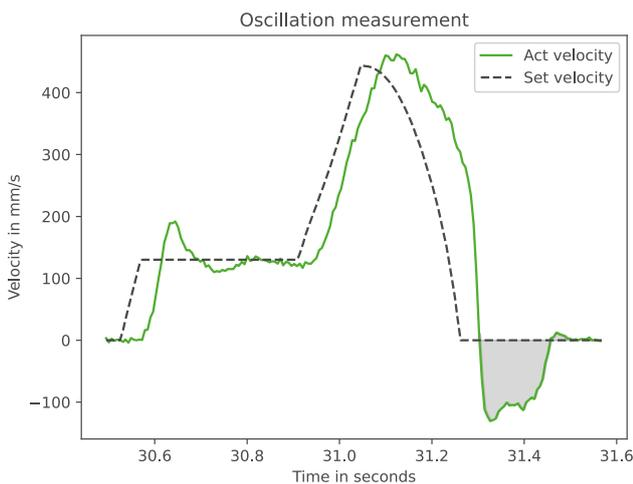

Figure 3.1: A typical mold open stop ramp evaluation (the movement time values start at 30 s, because we used actual data from a real measurement)
- 1 Algorithm evaluates the oscillation at the end of the movement (Figure 3.1),
- 2 uses the oscillation of a slow movement as a reference (A), and
- 3 performs numerous auto-calibration movements to identify the most suitable value based on the optimal “Max (B) & Stop (C)” values